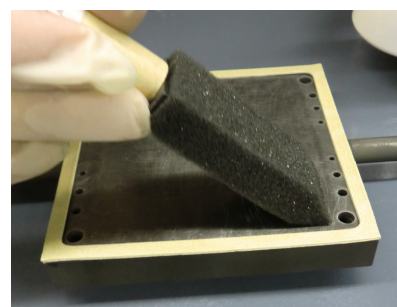

Figure 9
2. Apply approximately 2 grams of the provided nickel ink on the surface of the anode manifold (Figure 9). Do not apply ink to the gas flow ports.